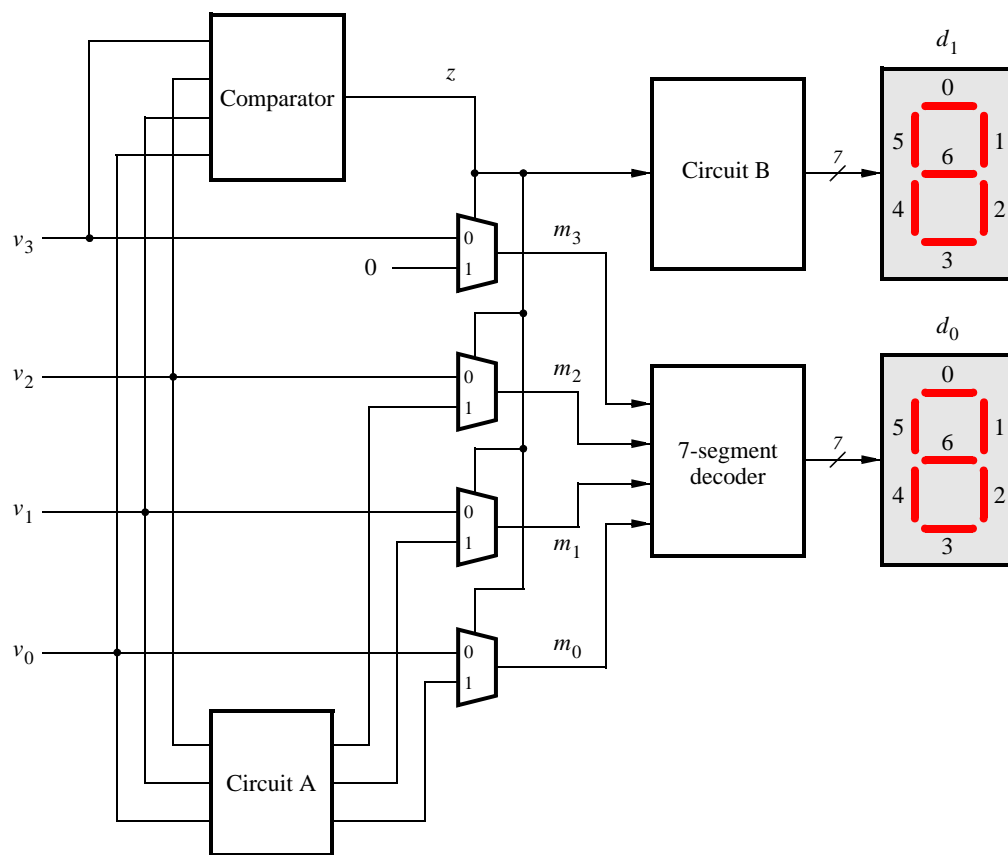

Figure 1: Partial design of the binary-to-decimal conversion circuit.
You are to design a circuit that converts a four-bit binary number $V = v_3v_2v_1v_0$ into its two-digit decimal equivalent $D = d_1d_0$. Table 1 shows the required output values. A partial design of this circuit is given in Figure 1. It includes a comparator that checks when the value of V is greater than 9, and uses the output of this comparator in the control of the 7-segment displays. You are to complete the design of this circuit by creating a VHDL entity which includes the comparator, multiplexers, and circuit *A* (do not include circuit *B* or the 7-segment decoder at this point). Your VHDL entity should have the four-bit input V , the four-bit output M and the output z . The intent of this exercise is to use simple VHDL assignment statements to specify the required logic functions using Boolean expressions. Your VHDL code should not include any IF-ELSE, CASE, or similar statements.
3. Augment your VHDL code to include circuit *B* in Figure 1 as well as the 7-segment decoder. Change the inputs and outputs of your code to use switches SW_{3-0} on the DE1 board to represent the binary number V , and the displays $HEX1$ and $HEX0$ to show the values of decimal digits d_1 and d_0 . Make sure to include in your project the required pin assignments for the DE1 board you are using.